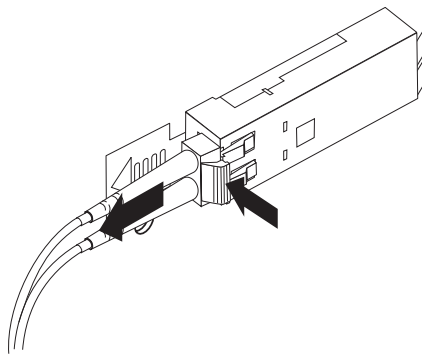

Figure 42. Removing the LC-LC fibre-channel cable
2. While pressing down the cable lever, carefully pull on the connector to remove the cable from the SFP module, as shown in Figure 42.